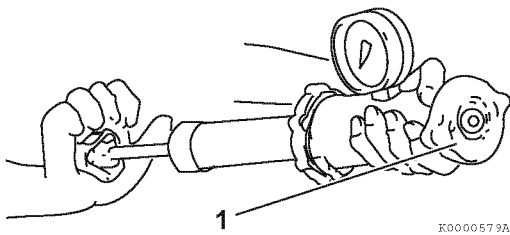

Figure 8-8
1. Check for proper operation of the radiator cap. Install the radiator cap (Figure 8-8, (1)) on a cooling system tester.